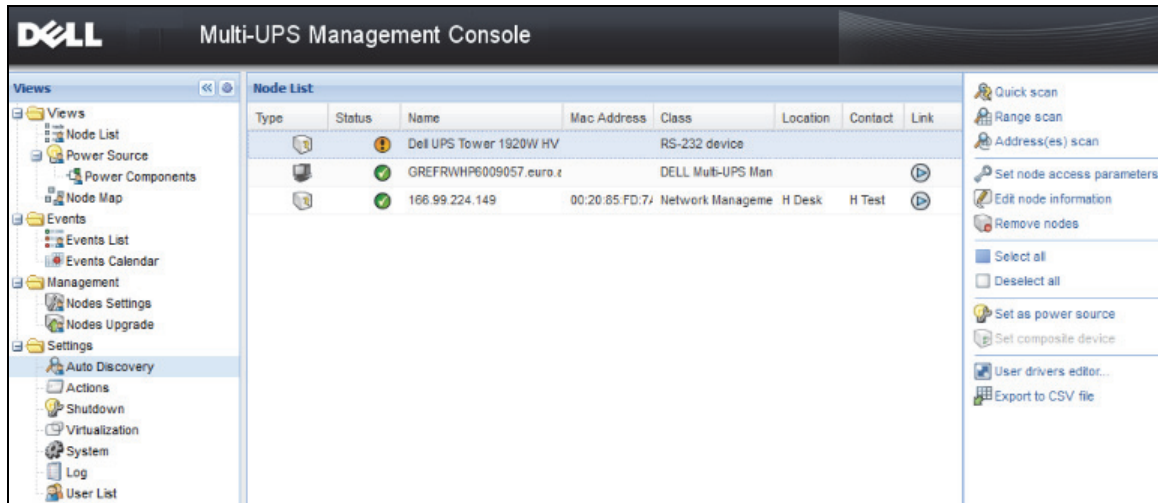

Figure 4. Quick Start - Auto Discovery
- The discovered nodes are displayed using **Settings > Auto Discovery** (see Figure 4).